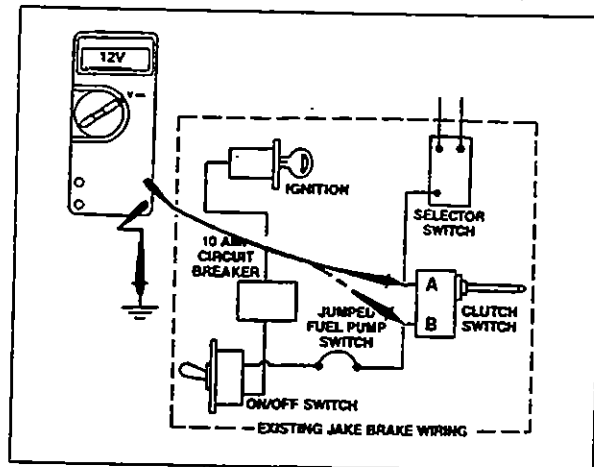

Fig. 1.1.34
**Correction:** Check that connections are tight on the clutch switch terminals. Check that there is no corrosion on connectors. Clean or replace as required. Check the clutch switch. With ignition ON and the Jacobs ON/OFF switch ON, measure the voltage at "A" (Fig. 1.1.34). VOM should read +12.5 VDC. At position "B" with switch closed, VOM should measure +12.5 VDC; with switch open, 0 VDC at position "B".